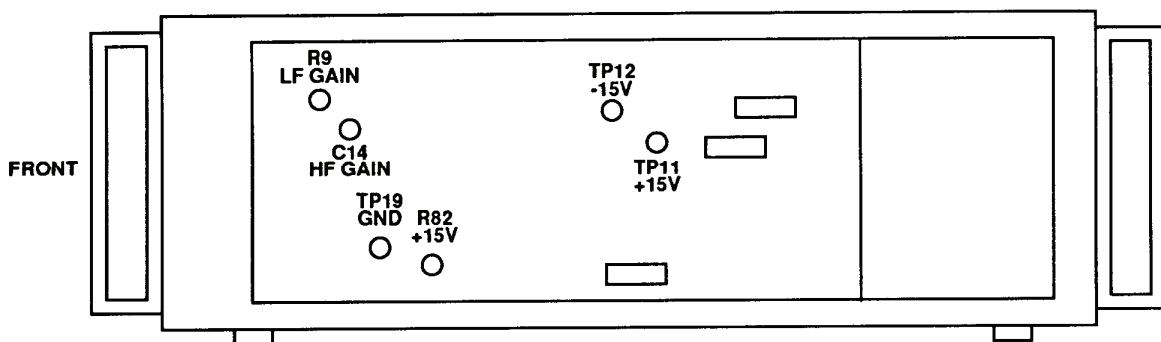

Figure 3. Precision power amplifier, Fluke, model 5215A - adjustment locations.
- (1) Adjust R9, LF GAIN (fig. 3) for TI measured output of 500 Vac (R).
- (2) Adjust C14, HF GAIN (fig. 3) for TI measured output of 500 Vac (R).
- (1) Adjust R9, LF GAIN (fig. 3) for best null indication on multimeter (R).
- (2) Adjust C14, HF GAIN (fig. 3) for best null indication on multimeter (R).
(1) Connect multimeter between TP11 +15V and TP 19 GRD (fig. 3). If multimeter does not indicate between 14.95 and 15.05 V, perform **b** below.
(2) Connect multimeter between TP 12 -15 V and TP 19 GND (fig. 3). Multimeter will indicate between -14.65 and -15.35 V.
b. Adjustments. Adjust R82 +15V (fig. 3) for a multimeter indication between +14.95 and 15.05 V dc (R).